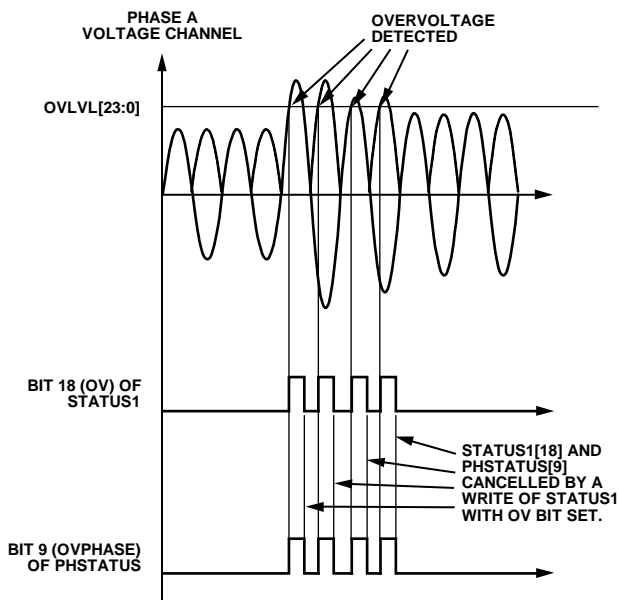

Figure 60. Overvoltage Detection
The ADE7880 detects when the instantaneous absolute value measured on the voltage and current channels becomes greater than the thresholds set in the OVLVL and OILVL 24-bit unsigned registers. If Bit 18 (OV) in the MASK1 register is set, the $\overline{\text{IRQ1}}$ interrupt pin is driven low in case of an overvoltage event. There are two status flags set when the $\overline{\text{IRQ1}}$ interrupt pin is driven low: Bit 18 (OV) in the STATUS1 register and one of Bits[11:9] (OVPHASE[2:0]) in the PHSTATUS register to identify the phase that generated the overvoltage. The Status Bit 18 (OV) in the STATUS1 register and all Bits[11:9] (OVPHASE[2:0]) in the PHSTATUS register are cleared, and the $\overline{\text{IRQ1}}$ pin is set to high by writing to the STATUS1 register with the status bit set to 1. Figure 60 presents overvoltage detection in the Phase A voltage.